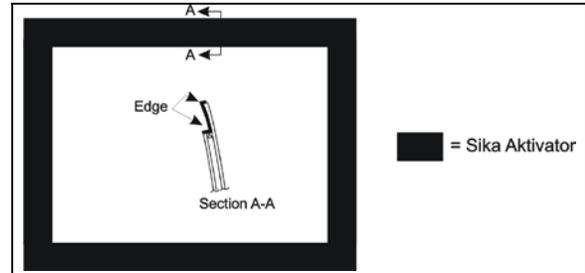
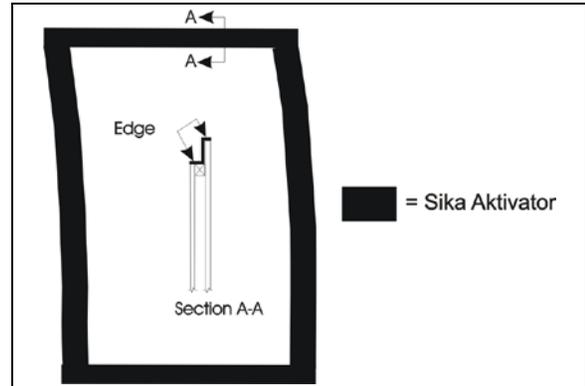

FIGURE 54: FACE FIXED WINDOW AND HALF-WINDOW – SIKA AKTIVATOR
FIGURE 55: SIDE FIXED WINDOW – SIKA AKTIVATOR
5. Apply Sika Aktivator on the window pane as per FIGURE 54 or FIGURE 55.